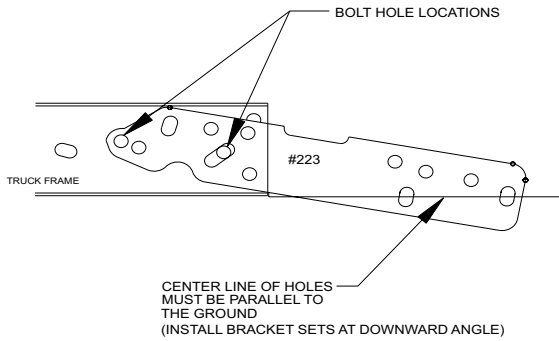

FIGURE 1 (driver side view)
STEP 1: Using 1/2 inch hardware, loosely install mounting brackets on the OUTSIDE of truck frame rails with the offset OUTWARDS. Refer to figure 1 and 2.